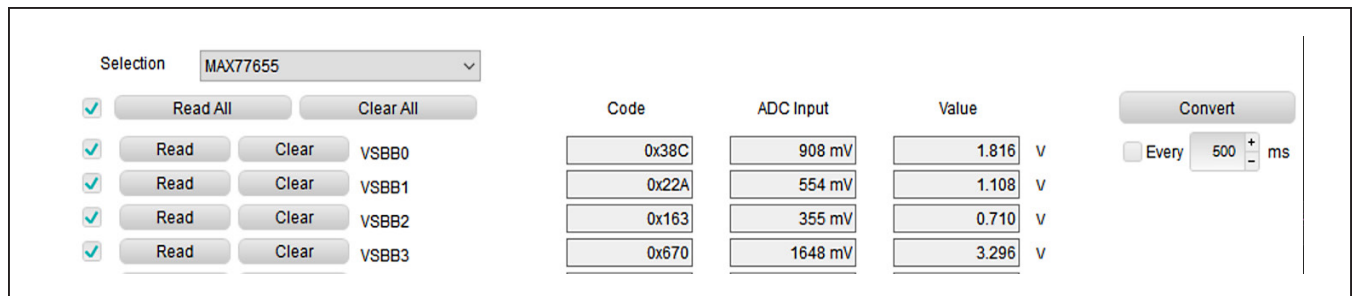

Figure 6. Quick Start: Regulator Check with the ADC
- 6) On the **ADC/AMUX** tab of the GUI, click the Read buttons next to VSBB0, VSBB1, VSBB2, and VSBB3. For the MAX77655A, 1.8V, 1.1V, 0.7V, and 3.3V should appear, respectively (Figure 6).